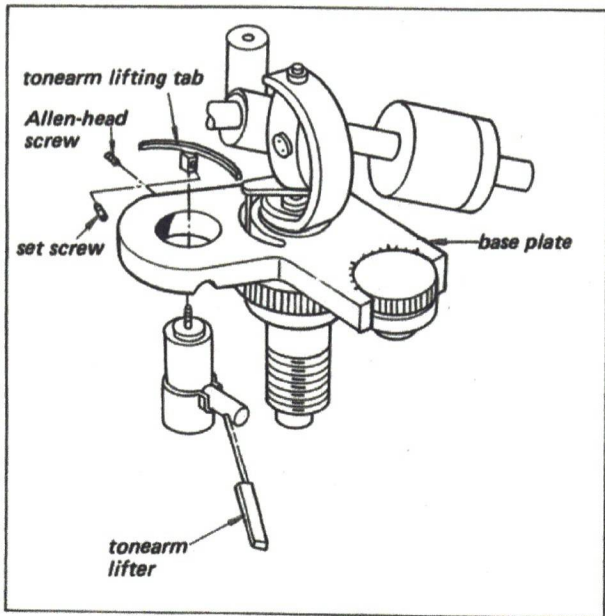

Fig. 2-15. Tonearm lifter replacement
2. Remove the set screw securing the tonearm lifting tab to the tonearm lifter as shown in Fig. 2-15.
4. Remove the allen-head screw securing the tonearm lifter to the base plate as shown in Fig. 2-15, and then depress the lifter gently. This frees the lifter.